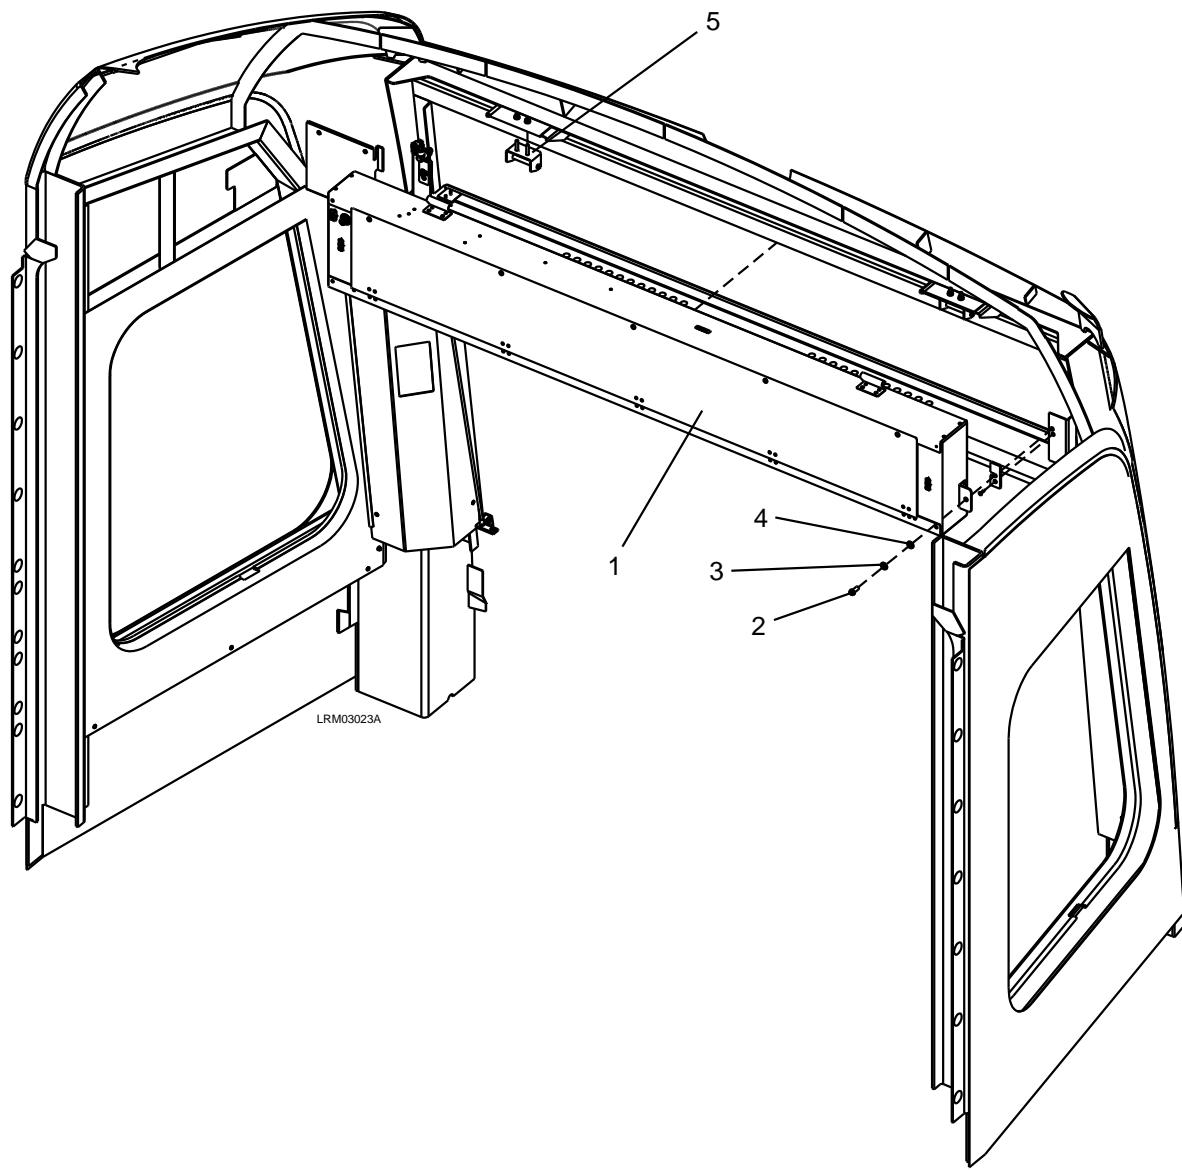

Figure 8-17: Front Destination Sign
1. Disconnect the electrical connections from the Front Destination Sign (1). See Figure 8-17.
2. Remove the two M8 x 20 screws (2), M8 lock washers (3) and M8 plain washers (4).
3. Carefully remove the Front Destination Sign (1) by lifting up off the brackets (5).